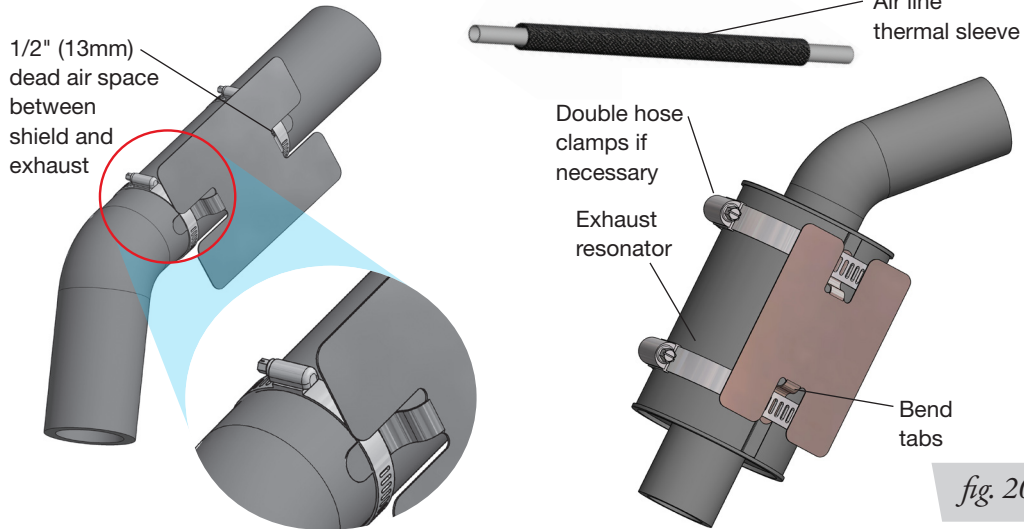

fig. 20
1. Attach the metal heat shield to the exhaust where it is closest to the air spring. Slide the air line thermal sleeve over the air line and place it where the air line is closest to the exhaust. (Fig. 20).